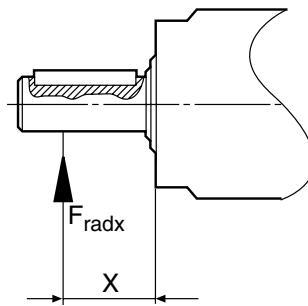

Fig. 4: Force applied at distance X
- The force is applied at a distance x, as in figure 4. This value can be calculated as follows: